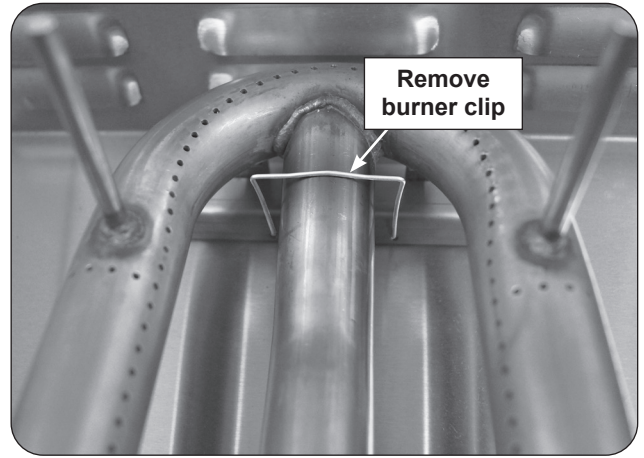

Fig. 39-1 Main burner removal
3. Locate the burner clip (located over the rear center tube of the burner) and slightly pinch and remove the clip from the burner support. See Fig. 39-1.